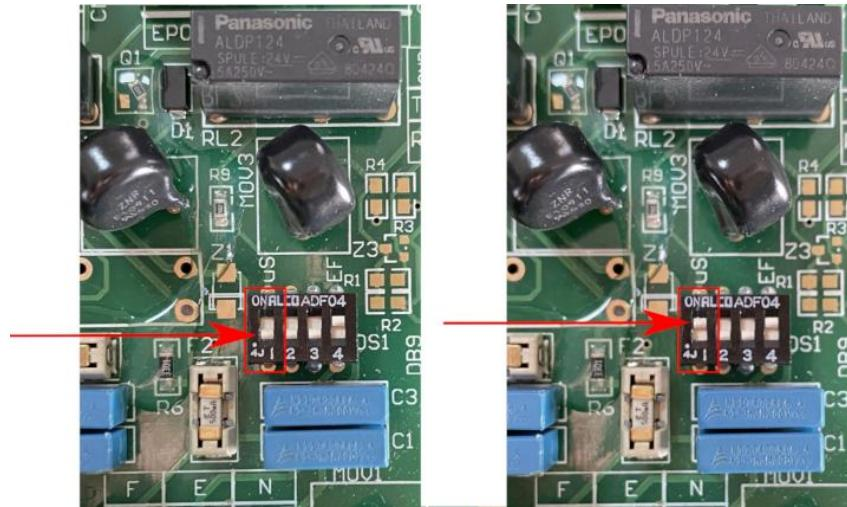

Figure 28 – uSW function
Note: If there is no uSW function in the socket, to maintain the Automatic Start Up you have to switch ON position 1 of dip switch DS1 at PCB MVA EF see Figure 28 and **Annex II – Components**, for PCB location (18). If there is no EF interlock in the socket/plug the Automatic start up mode is not possible.